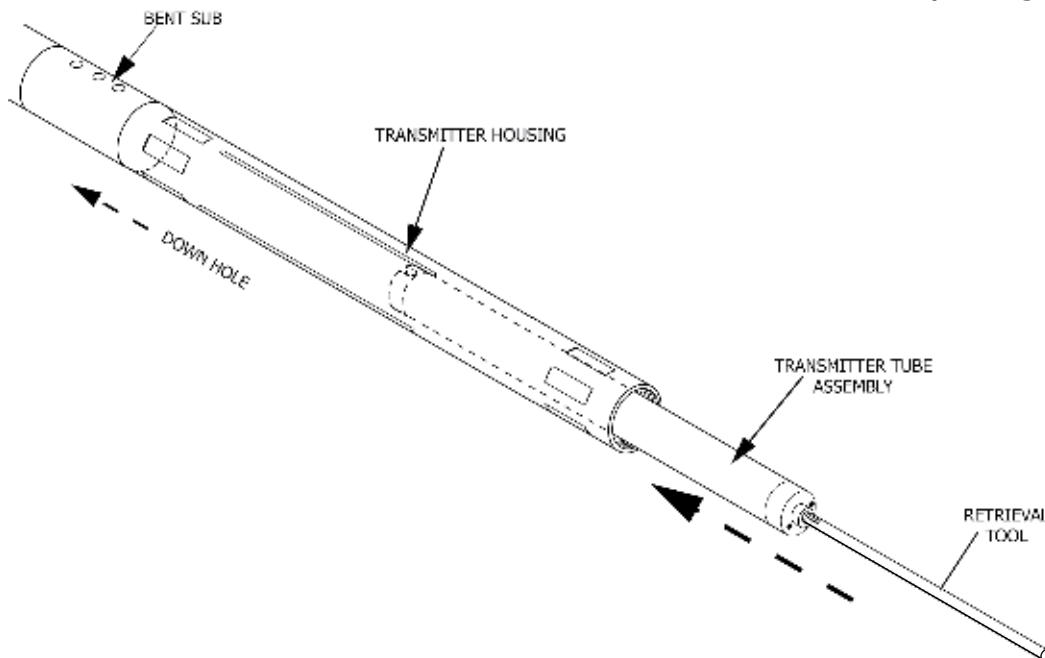

Fig. 24
7. Push forward on the retrieval tool until you feel a light bottom resistance. (see Fig. 24).